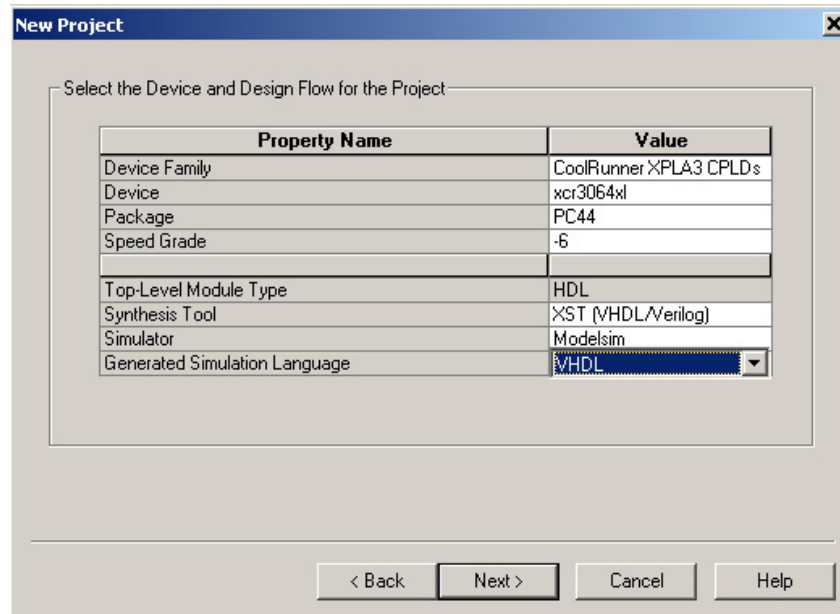

Figure 5; Creating the project.
2. Create counter project; In the Project Navigator, select **File** → **New Project** and follow the same procedure as in previous labs. Setup project options as in figure 5. Click **OK**.
4. Components instantiations; once the components are declared, they must be instantiated. This means the connections between components and/or signals inside the system must be declared. The declaration area for components instantiations is under the comment – *Components Instantiations* – in the disp\_controller.vhd file. Use the inverter instantiation as an example. Use the block diagram in figure 5 as a map to complete the connections.